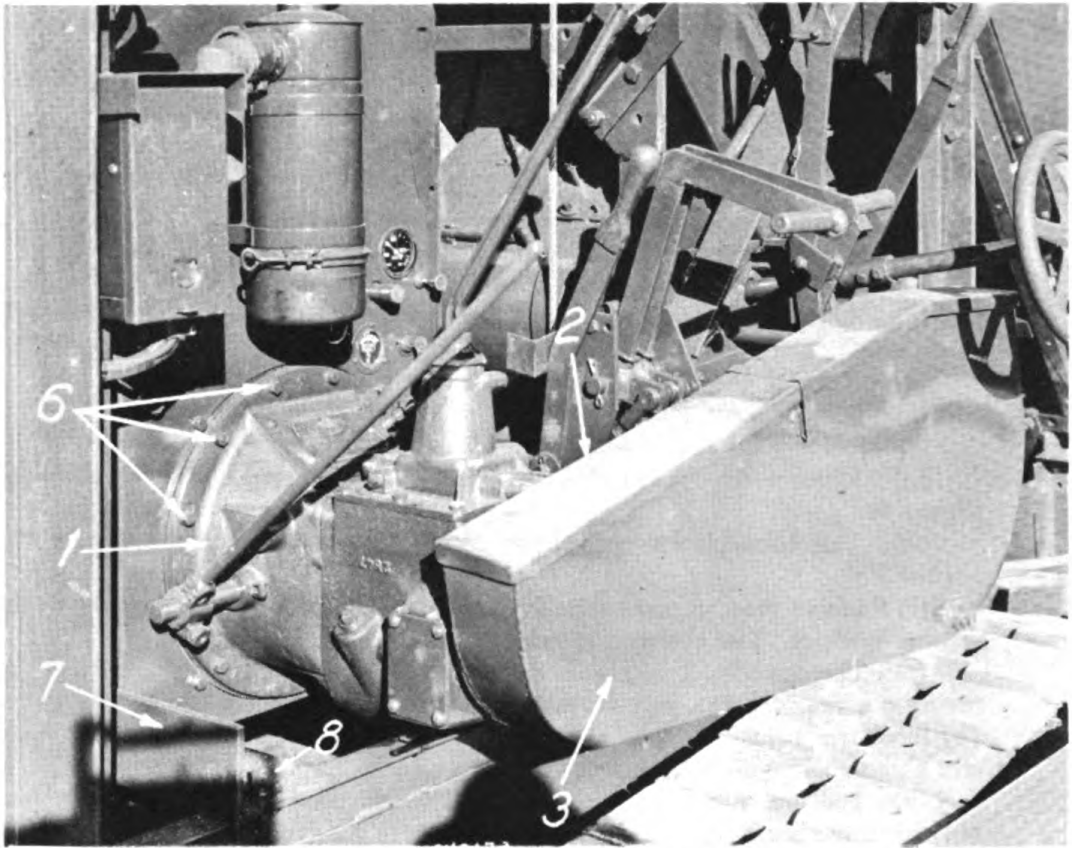
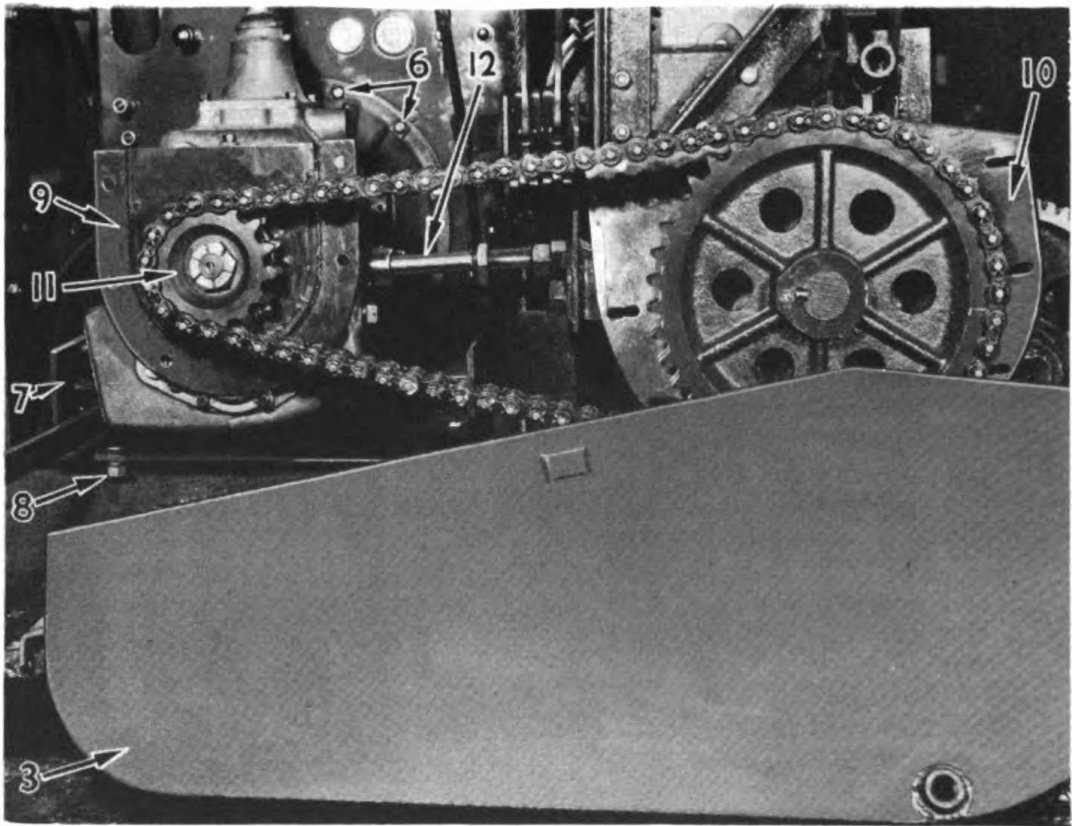
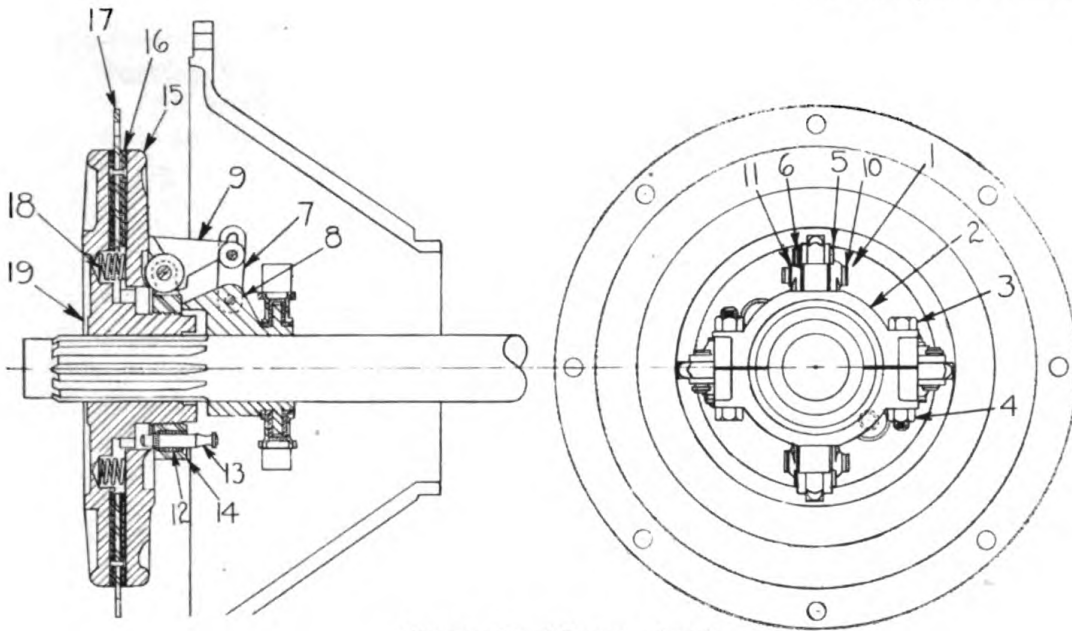

Figure 97. Showing main transmission.
Figure 98. Showing main transmission and main drive chain.
Figure 99. Master clutch.
- (b) Remove the chain guard cover (2) Figure 97 and guard (3).
- (c) Take out the cap screws in the transmission and the main jackshaft patch plates (9) (10) Figure 98, and remove the bolt in the case support bracket.
- (d) Remove the transmission thrust bolt (12).
- (f) Remove all cap screws (6) from the clutch housing.
- (g) Remove the grease pipe (84) Figure 100 from the shifter collar (2) Figure 99.
(i) Remove the cap screws holding the driving plate (17) Figure 99 to the engine flywheel. The clutch may now be taken off as a unit.
The following parts should be examined and replaced if there is excessive wear. Cone collar (2) Figure 99, sliding sleeve (8), finger levers (9), pins (5) and (10) and adjusting yoke (14).
Screw the adjusting yoke (14) Figure 99 tight enough against the floating plate (15) so the release springs (18) do not fall out of place but do not attempt to adjust the clutch until the installation is complete.
Adjust the clutch by holding the lock pin (13) out and turning the yoke (14) clockwise until the lever engages with a distinct snap. Figure 99.
- (a) Remove chain guard, chain and transmission sprocket (11) Figure 98 as instructed in paragraphs (a), (b) and (c) under "General Overhaul."
(a) Remove cover (2) Figure 97 on chain guard (3). Drain and flush oil out of guard. This guard is held to a plate (9) Figure 98, on the transmission and another plate (10) on the main jackshaft end by $\frac{3}{8}$ " cap screws. Use care in taking this off to avoid damage to gaskets. The chain guard will drop down to rest on the crawler treads after removal of the cap screws.
For removal of the drive sprocket (3), the chain guard (3) Figure 98, must be removed. This is accomplished by the following steps: Remove the hoist handwheel shaft at splice. Remove the chain guard cover (2), take out the cap screws in the transmission and jack shaft patch plates (9) (10) and remove the bolt in the case support bracket.